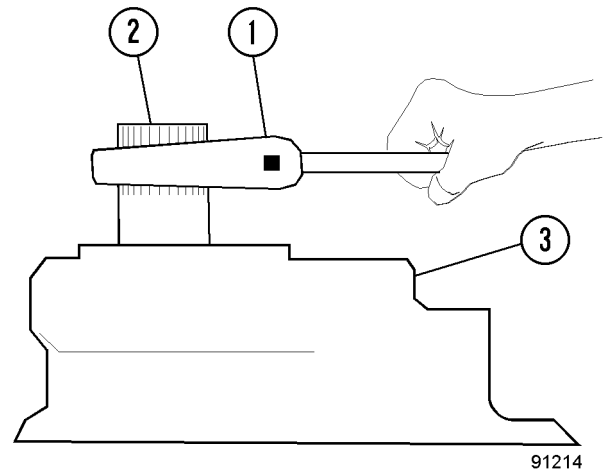

FIGURE 3-15. PUMP ROTATION CHECK
24. Install dowel (22) if removed. Lubricate and position O-ring (17) in transition plate (16). Assemble bearing plate (15) to transition plate and install cap screws (14). Tighten cap screws to standard torque.
25. Lubricate O-ring (21) and position on bearing plate (15). Install the assembled bearing plate and transition plate (15 & 16) to the connector plate (11) and secure in place with nuts (20). Tighten nuts to standard torque.
26. Install coupling (19).
28. Using an 18 inch (45 cm) adjustable wrench, check pump drive shaft rotation. The drive shaft will be tight but should turn freely with a maximum of **7 to 14 N·m (5 to 10 ft lbs)** torque, after the initial surge. (Refer to Figure 3-15.)